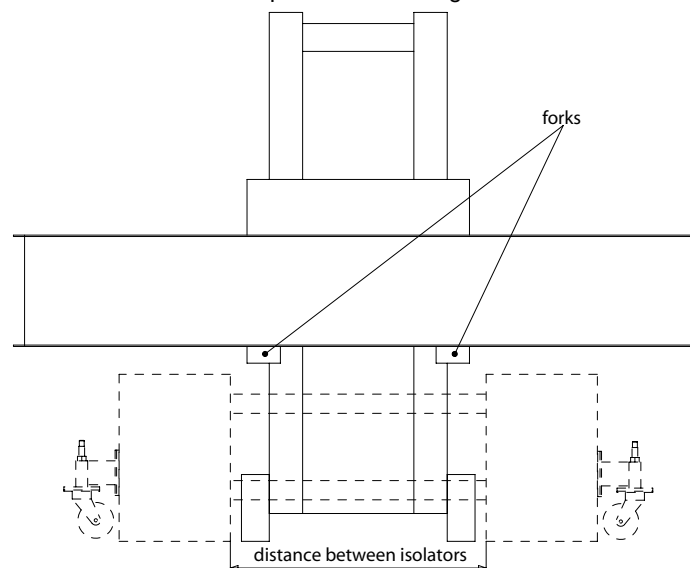

Fig. 4.3 Distance between forks
- 2) Raise the table on a fork-lift truck, ensuring that the fork distance is set such that the forks can pass between the supports when the table is lowered into position – See Fig. 4.3.